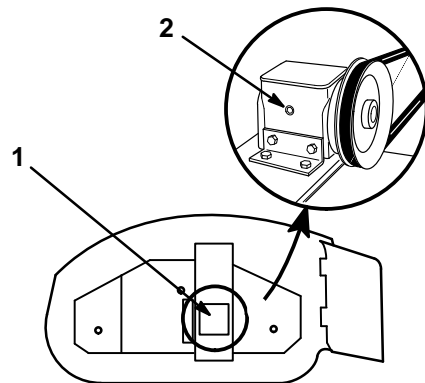

Figure 22
6. Remove filler plug and check fluid level. Fluid should be at lower level of filler plug hole (Fig. 22).